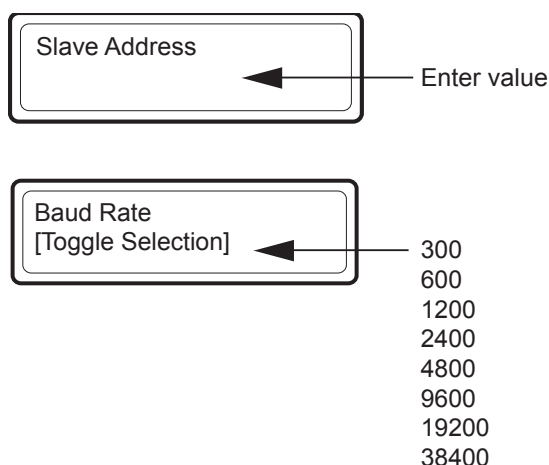

Figure 4.4—Configuration menus for slave address and baud rate
3. Press ENTER repeatedly to advance the display to the Slave Address 2 menu (Figure 4.4, Page 33).
- d. Press ENTER to advance to the Baud Rate 2 selection menu (Figure 4.4, Page 33).